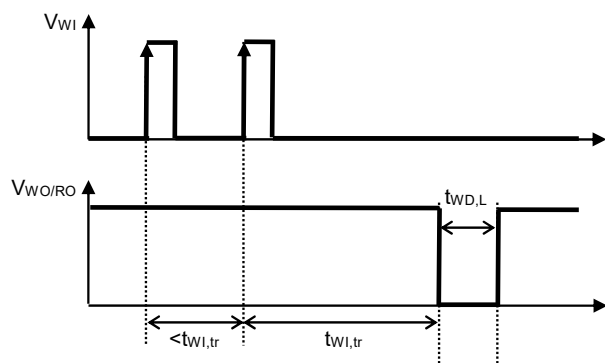

Figure 8 Watchdog Trigger Time
*1. The time when the WO / RO pin continues "L" after the watchdog timer detects a time-out (Refer to **Figure 8**). This value changes according to C_{DLY} .
*2. The time from when the watchdog timer initiates the detection of a trigger signal to when a time-out is detected and the WO / RO pin output changes to "L" (Refer to **Figure 8**). This value changes according to C_{DLY} .